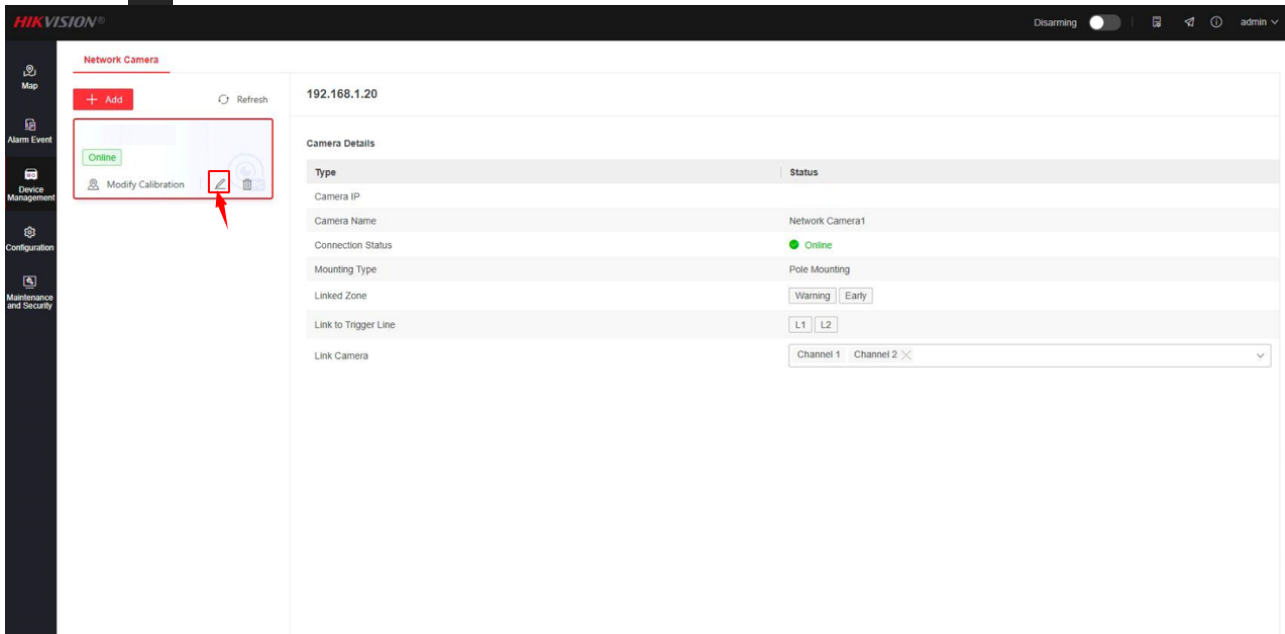

Figure 4-9 Edit Overview
1. Click  in the radar interface to set camera parameters. (See Figure 4-9 Edit Overview)